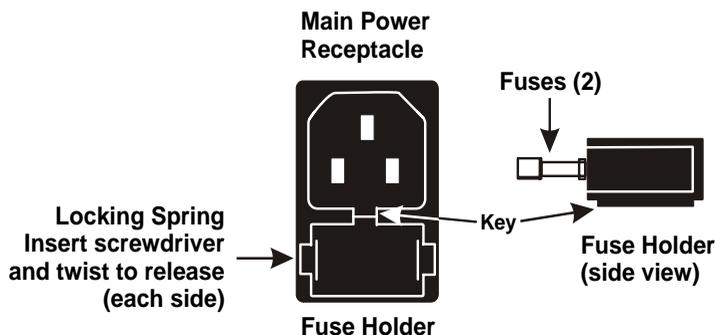

Figure 5-25. Autosampler Compartment Main Power Fuse Holder
2. A recessed lock is located on each side of the fuse holder (see Figure 5-25). Using a small screwdriver, push each lock toward the center to release it. The fuse holder pops out approximately 0.16 cm ($1/16$ in) when the locks release. When both locks are released, pull the fuse holder straight out of its compartment.